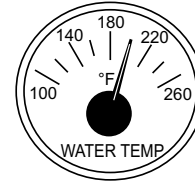

Figure 48. Coolant Temperature Gauge
13. The **coolant temperature gauge** (Figure 48) will indicate the coolant temperature. Under normal operating conditions the coolant temperature should be between 185°~207°F (85°~97°C).